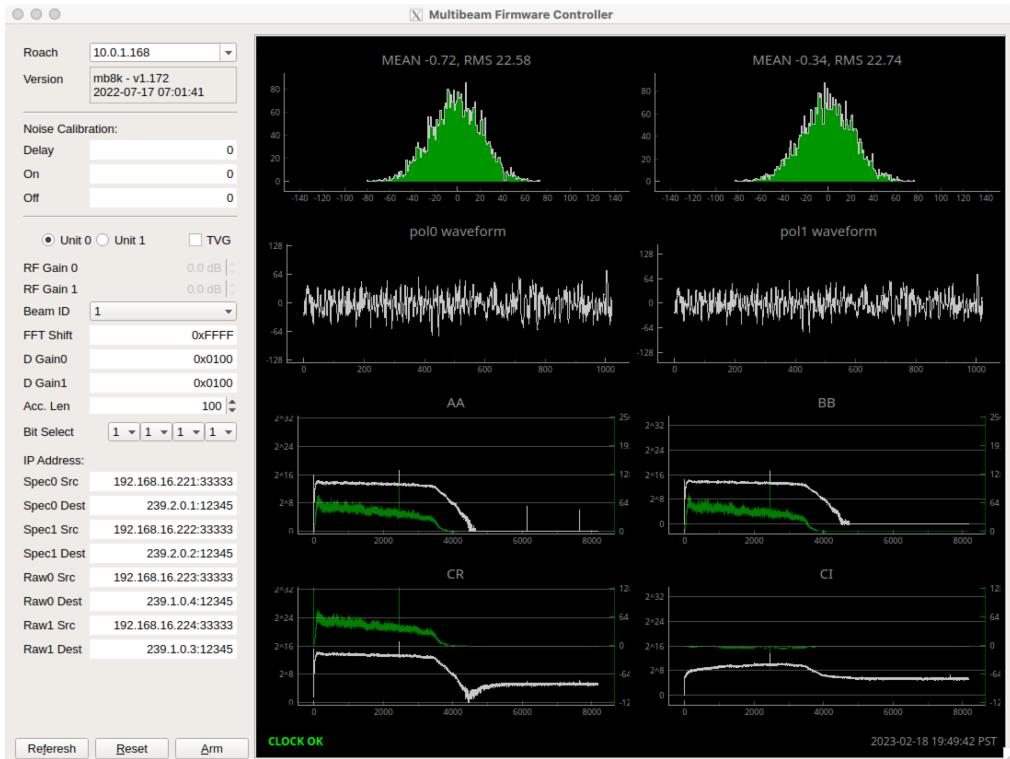

Figure 4: The GUI software for status check
**Note:** **SLOT0-CH2** transfers ADC data digitized at **I** port on the ADC board, which will show as **pol1** on the GUI software shown on figure4.